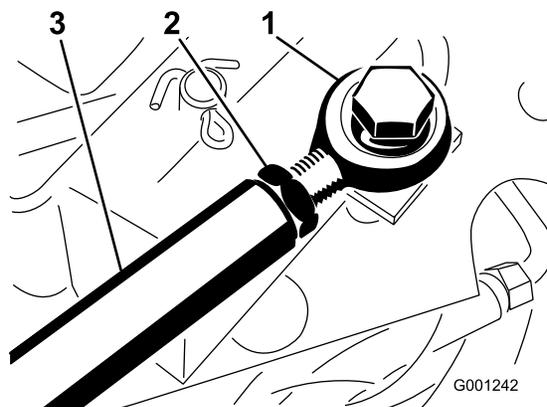

Figure 79
If more adjustment is required, adjust the traction rod (Figure 79) as follows:
2. Loosen the jam nut securing rod end to the traction rod (Figure 79).
4. Tighten the jam nut (Figure 79) and secure the rod end to the traction pedal with the bolt and nut removed to lock the angle of the foot pedal.